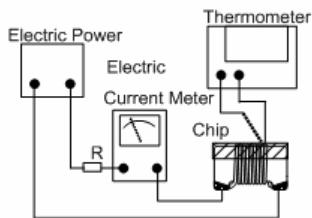

Fig. 6.3.4-1
- h. Definition of Rated Current (Irms): Irms is direct electric current as chip surface temperature rose just **15°C** against chip initial surface temperature (T_a) (see **Fig. 6.3.4-2**).